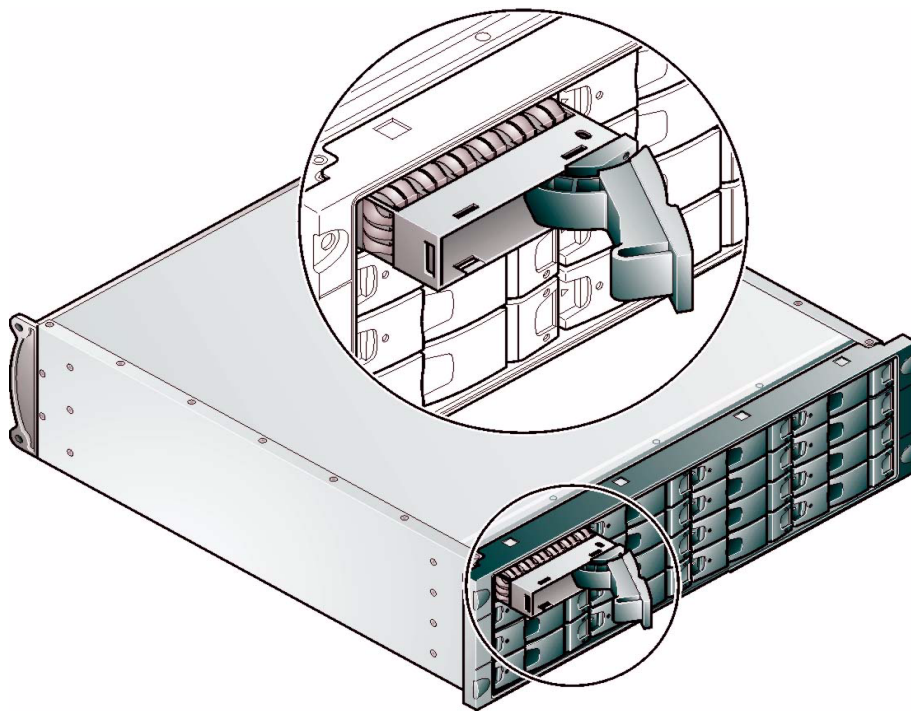

Figure 2-14 Installing a SATA Drive Carrier Module (2)
- 2 Slide the carrier, gently, all the way into the enclosure until it is stopped by the camming lever on the right of the carrier (Figure 2-14)